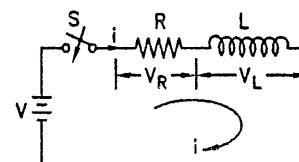

FIG. 1.176(a) : R-L CIRCUIT
- Consider a circuit having a resistance R and an inductance L connected to a d.c. source of voltage V as shown in Fig. 1.176(a).